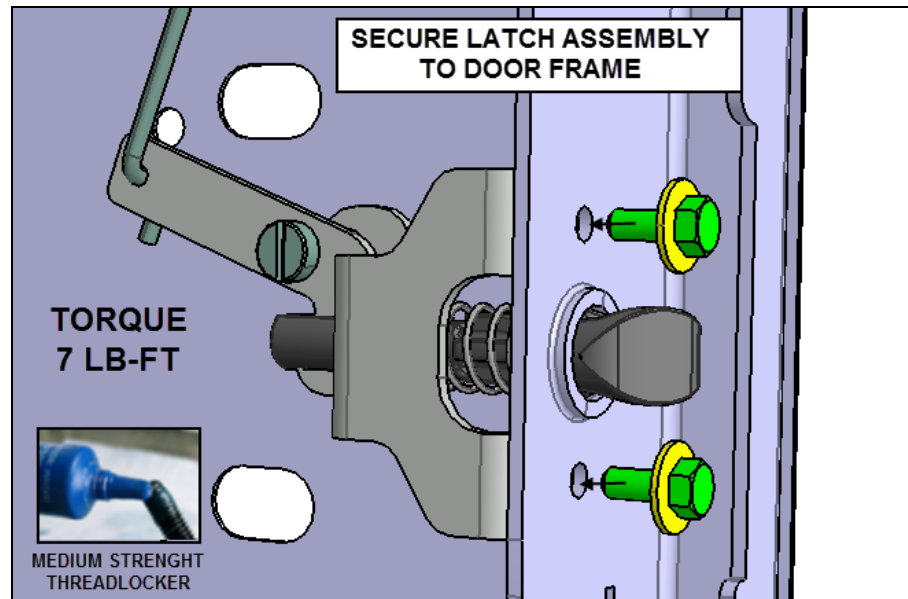

FIG.26 SECURING LATCH MECHANISM TO DOOR FRAME
22. Secure the latch mechanism to the door frame using the two latch screws, Apply a slight amount of medium strength threadlocker (Loctite blue 243 or equivalent) to the screw threads. Torque both screws to 7 LB-FT (Fig.26).